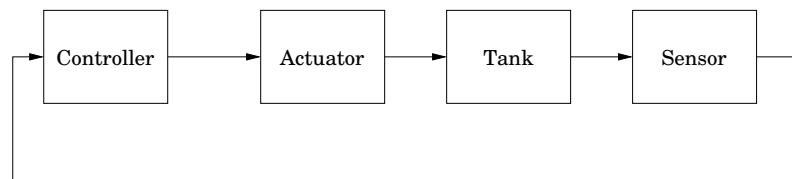

Figure 1.4 Block diagram of water level control.
- b. The block diagram can be drawn as in Figure 1.4. Often, actuators and sensors are not drawn as separate blocks, but are assumed to be included in the process (in this case the tank).